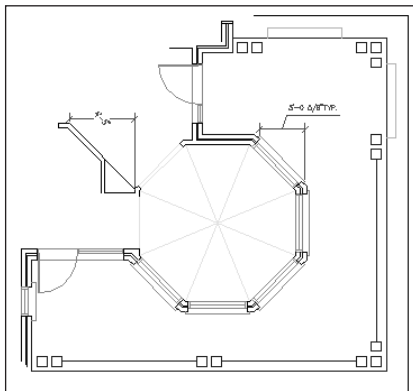

Figure 14-10: The dimensioned drawing
5. Save your drawing. It should look like Figure 14-10.